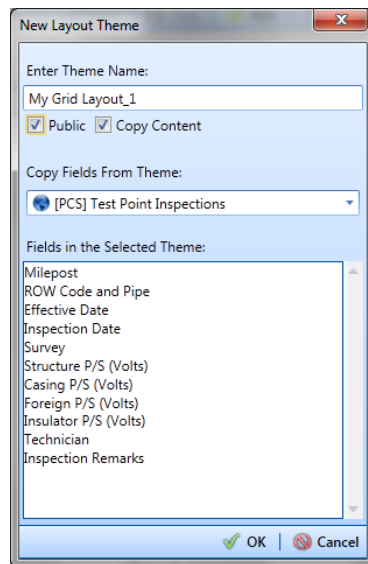

Figure 7-82. New Layout Theme
- 5 Click the **Customize** tab  then the  **Add** button to open the *New Layout Theme* dialog box (Figure 7-82).